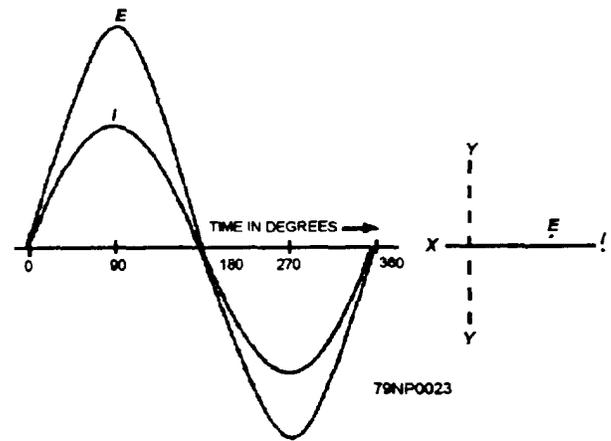

Figure 3-23.—Waves and vectors of alternating current and voltage in a circuit containing only resistance.
In figure 3-23, you can see that the voltage (E) and the current (I) are in phase with one another. Since the two values are in phase, the angle θ between them is 0 in the vector diagram. This represents a purely resistive ac circuit.